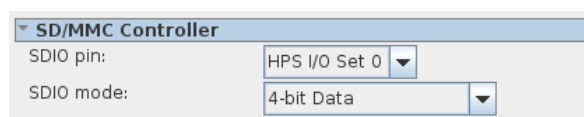

Figure 8-10. SD/MMC configuration
- Configure “SDIO pin” to “HPS I/O Set 0” and “SDIO mode” to “4-bit Data”, as shown in Figure 8-10.